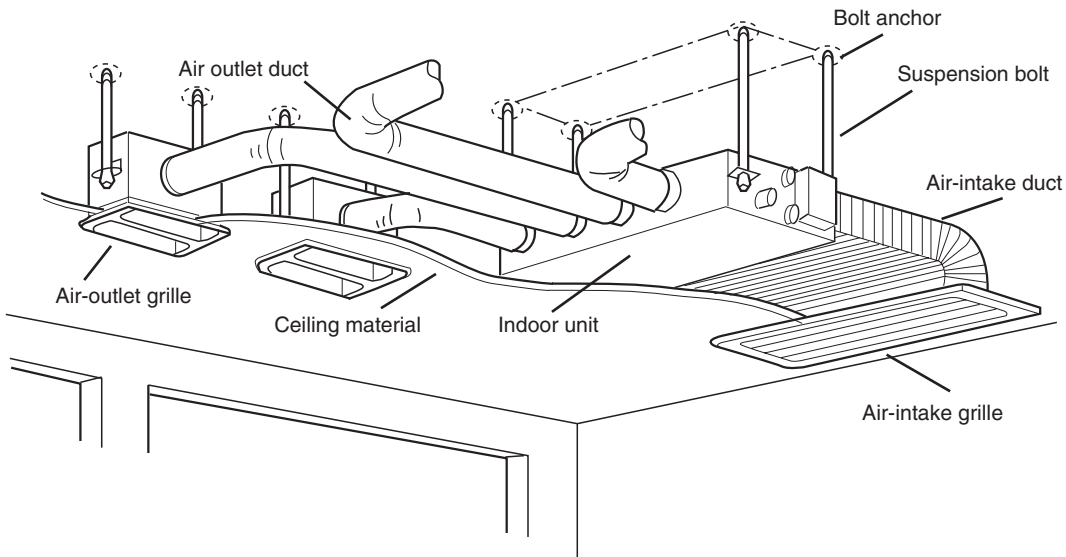

Fig. 1-107
- Fig. 1-107 shows an example of installation.